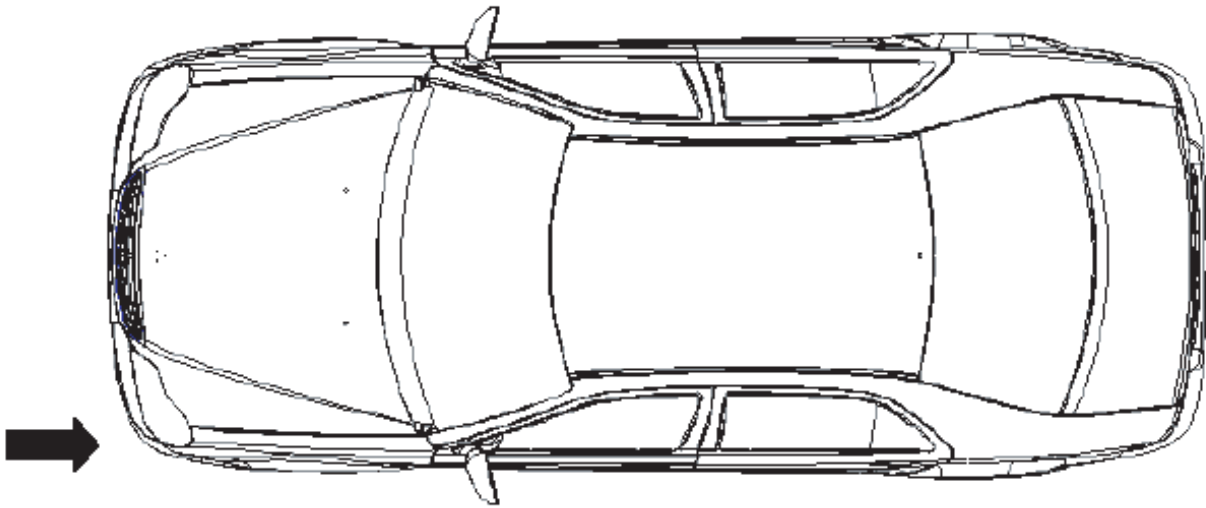

Figure 5-14 Crashed By Outside Force Ahead Or From The Left Side
- ① Nearby the left and right mounting place of the hood;
- ② Nearby the left and right mounting connection place of the front cross member.
2. Crashed By Outside Force Ahead Or From The Left Side (Figure 5-14)
Figure 5-14 shows the situation when the front is pressed or the left side is crashed by outside force. Under this kind of situation, the outside force spreads from the left (or right) of the hood to the front suspension mounting place, to get this part easily deformed.